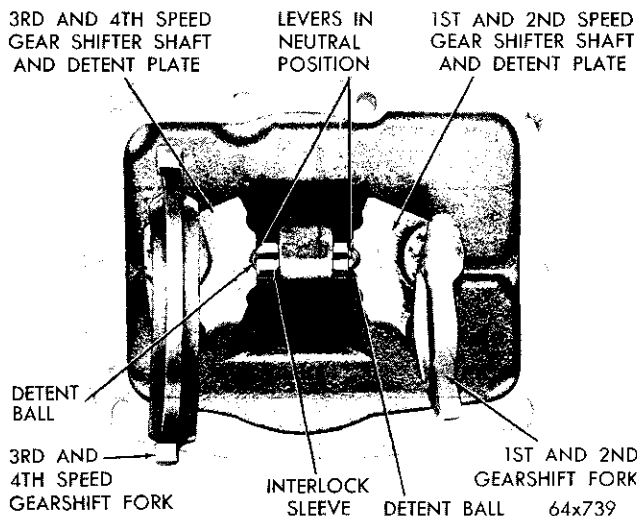

Fig. 31—Transmission Shift Housing Assembly
(1) Remove the bolts that attach the gearshift housing to the transmission case (Fig. 31). With all the levers in the neutral detent position, pull the housing out and away from the case. (The first and second, third and fourth shift fork may remain in engagement with the synchronizer sleeves.) Work the forks out of the sleeves and remove from the case. Discard the housing gasket.